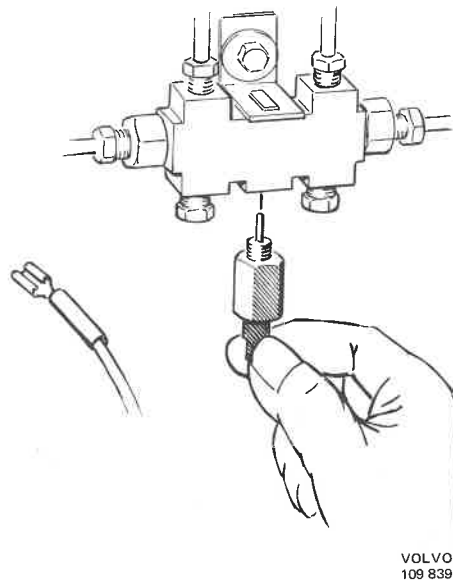

Fig. 77-22. Contact for pressure difference
3. Disconnect and plug the brake lines and bleed the wheel cylinders. Remove the contact for the pressure difference, see Fig. 77-22, during the bleeding. If a bleeder apparatus is used, the working pressure should be 0.2 MPa (2 kp/cm2 = 28 lbf/in2). For more detailed instructions concerning bleeding, see Part 5.